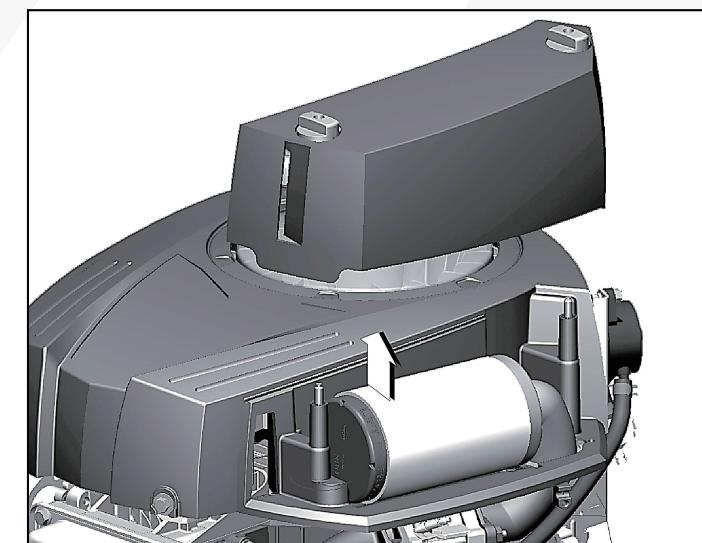

Fig. 39
1. Loosen the fasteners and remove the cover. (Fig. 39)